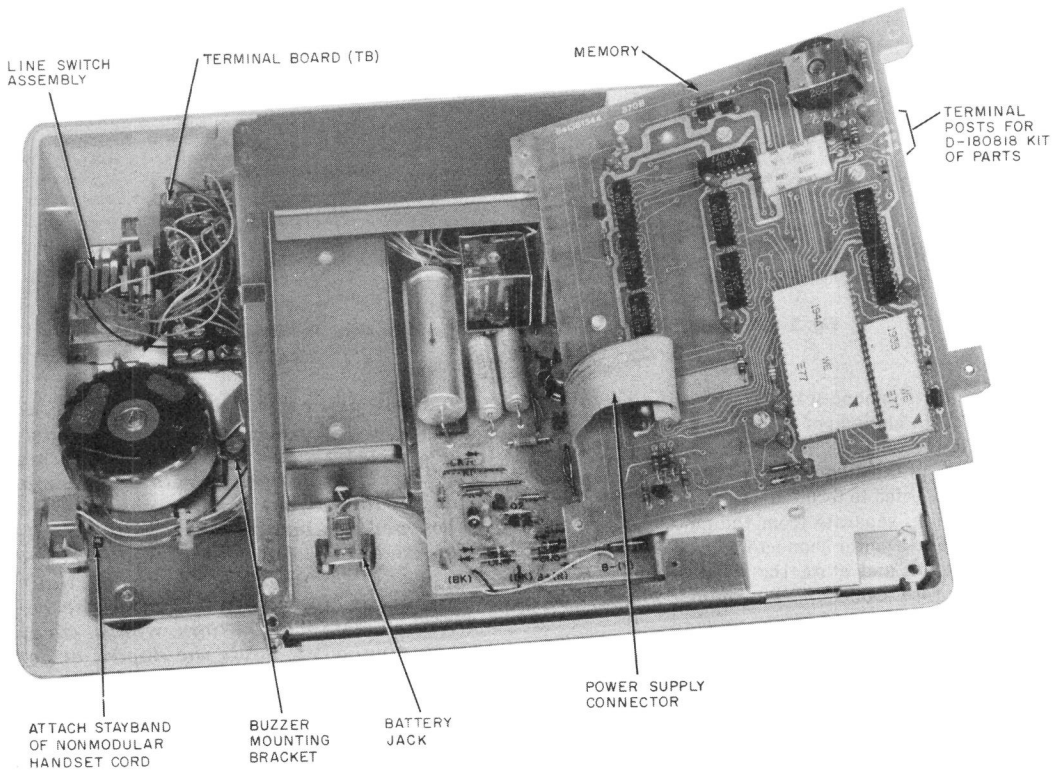
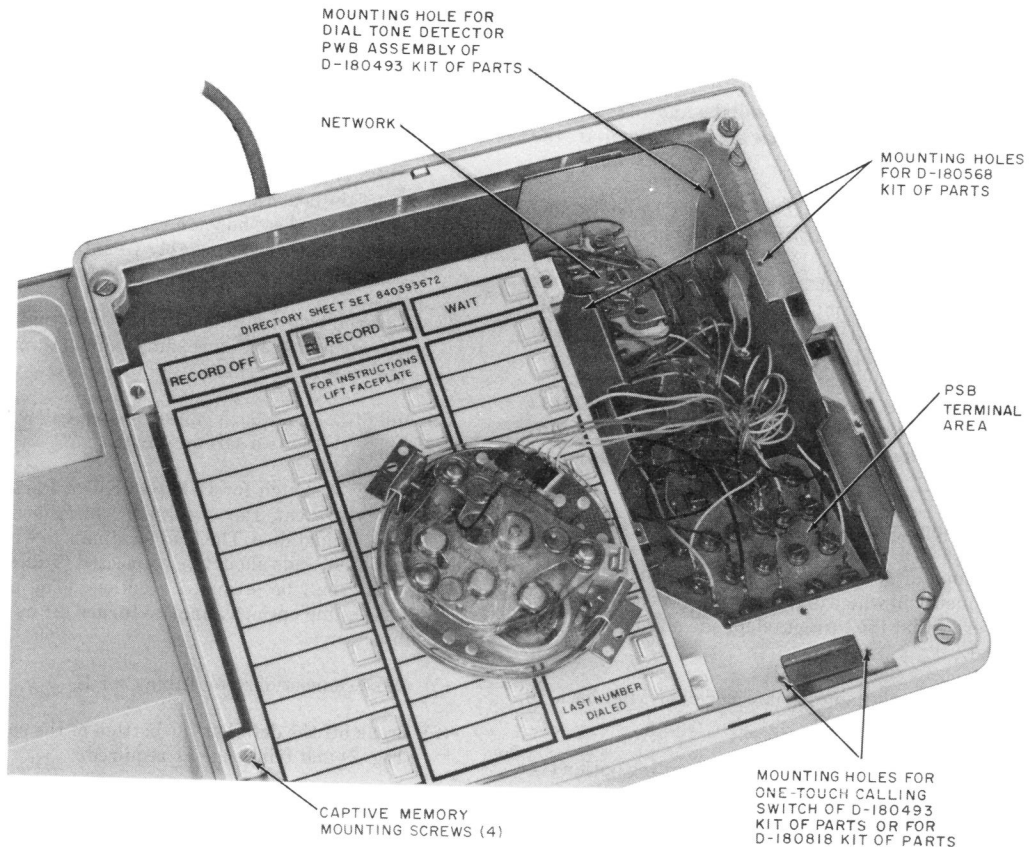

Fig. 3—870A2M Telephone Set—Internal View
Fig. 4—870A2M Telephone Set—Dial Removed to Show Terminal Area
- (1) Proceed as described in paragraph 3.18.
- (2) Make connections per appropriate Table B, C, D, or E.
- (3) Mount the kit assembly to the chassis with the screws provided (Fig. 4). Beveled corner of the printed wiring board (PWB) should be at lower right corner.
- (1) Remove the housing (paragraph 3.21), and access PSB terminal board (paragraph 3.18).
- (2) Insert the board assembly from the back of the set and locate as shown in Fig. 4, such that the two tabs on the board assembly fit into the slots in the chassis.
- (3) Lock the board into position by inserting the accompanying self-threading screw through the right side of the chassis.
- (4) Mount the one-touch calling switch below the dial with the two screws provided.
- (1) Remove faceplate (paragraph 3.19).
- (2) Loosen the captive screw at the bottom of the cover around the dial and remove the cover.
- (3) Disengage the four captive memory mounting screws (Fig. 4).
- (4) Remove the two captive dial mounting screws and move dial aside.
- (5) Rotate left edge of the memory upward as shown by Fig. 3.
- (1) Remove faceplate (paragraph 3.19) and place handset aside.
- (2) Remove handset cradle (paragraph 3.20).
- (3) Remove screw from buzzer mounting bracket, and mount buzzer on bracket shown in Fig. 3.